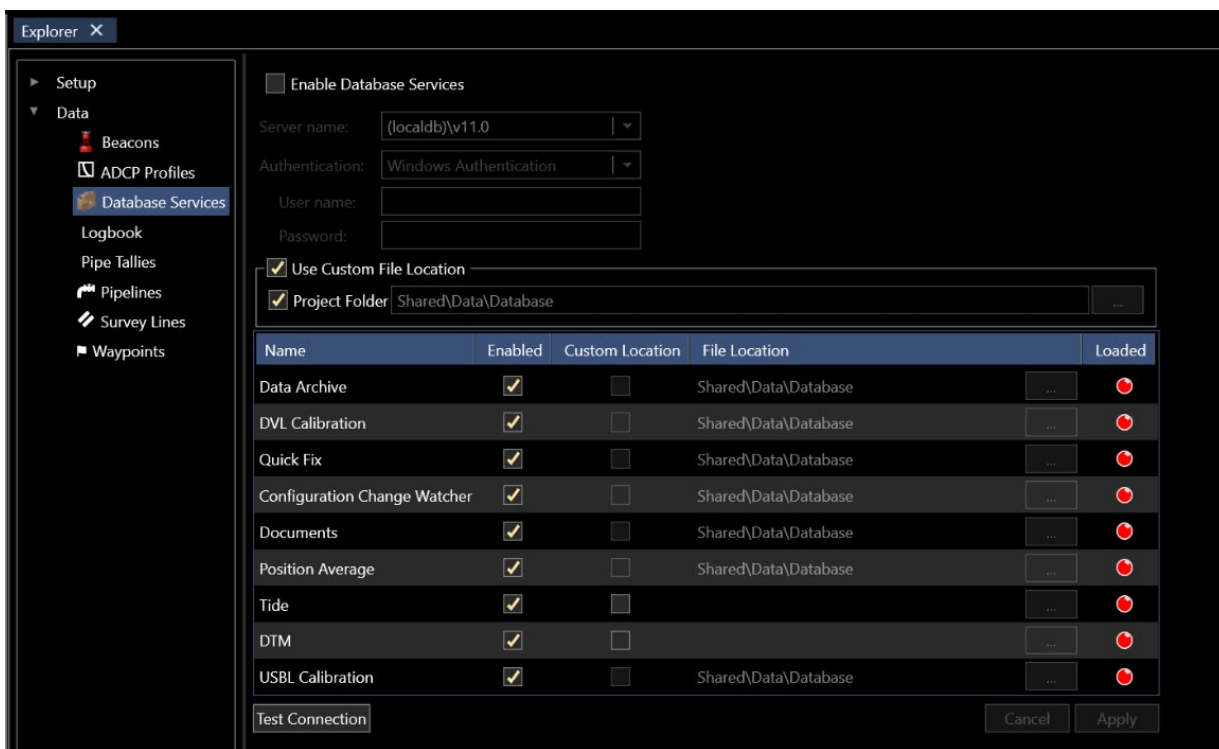

FIGURE 14-2 DATABASE SERVICES – SERVER CONFIGURATION
1. Open the Explorer window and navigate the tree to select **Database Services** to access the server configuration shown in FIGURE 14-2